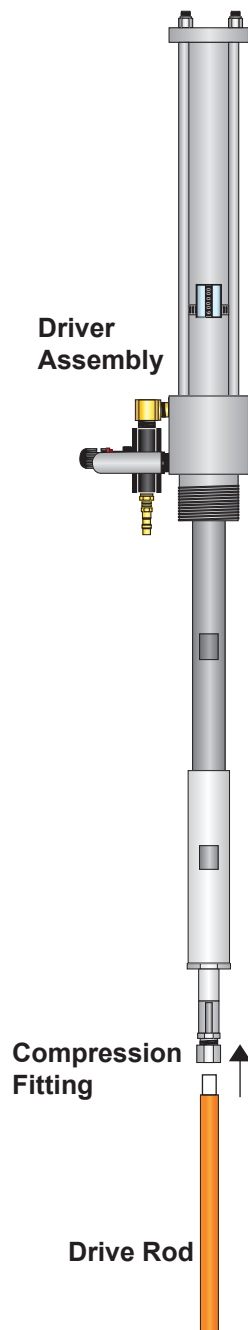

Figure 17
22. Using a utility knife, carefully shave off two inches of the plastic coating from the end of the fiberglass drive rod and insert the drive rod into the compression fitting on the driver assembly (**Figure 17**). While keeping the drive rod fully inserted into the compression fitting, tighten the fitting firmly using two 8" wrenches.